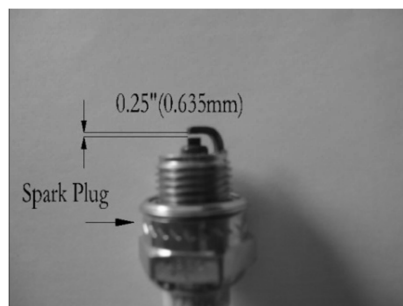

Fig.22
1. To remove spark plug(B)(Fig.22)for cleaning or replacement: make sure engine is off, spark plug is cool, then grasp spark plug boot firmly and remove from spark plug. Remove spark plug with correct spark plug tool. Inspect, clean or replace as needed.
2. Spark plug gap =.025 in.(.635mm)(Fig.22).
3. Clean and gap spark plug or install a new spark plug with proper gap.(Fig.22)